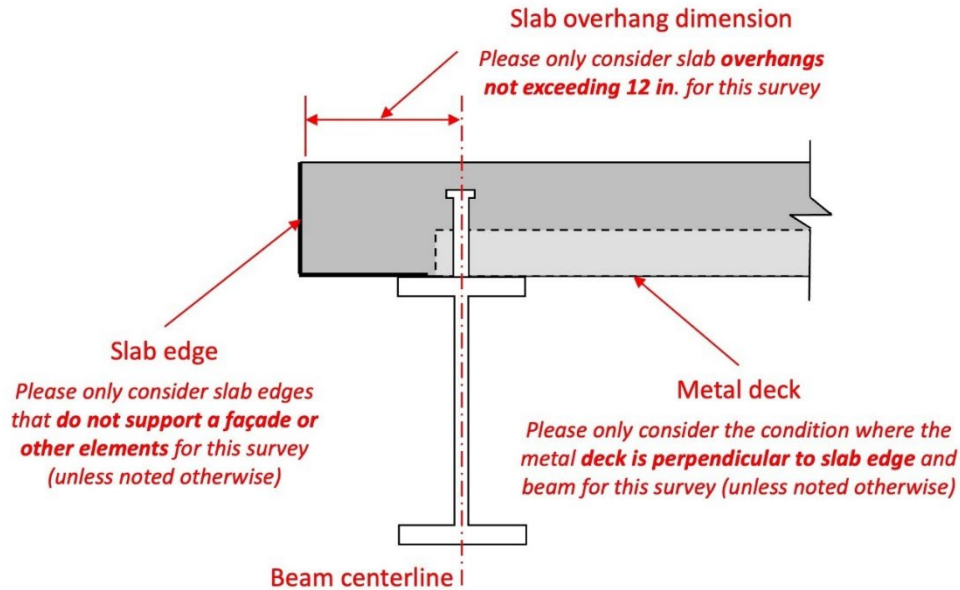

Figure 2. Schematic edge detail with notation, description and limitations as to what conditions should be considered in this survey.
The survey content, including related questions and figures, was developed in early 2023 based on a preliminary review of structural drawings from several design engineers, feedback from several design engineers, and feedback from the AISC Task Committee 5 (TC 5) on composite design. The survey was designed to collect information regarding typical design and construction practice for slab edges expected to be most susceptible to rib shear failure, namely slab edges that (1) overhang beyond the centerline of the edge beam by 12 in. or less, and (2) are formed by steel decking with ribs oriented perpendicular to the edge beam. Further, the primary survey content was focused on slab edges that are not designed to support façade or other edge loads, to solicit responses regarding the most lightly reinforced, and thus expected to be the most critical, edge conditions that may be susceptible to rib shear failure. These criteria are illustrated in Figure 2, which shows the schematic detail that was provided at the beginning of the survey.